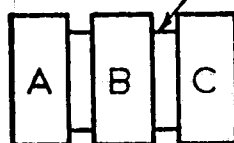

Figure 1
a) Assume Selector "B" is to be removed. See Fig. 1.